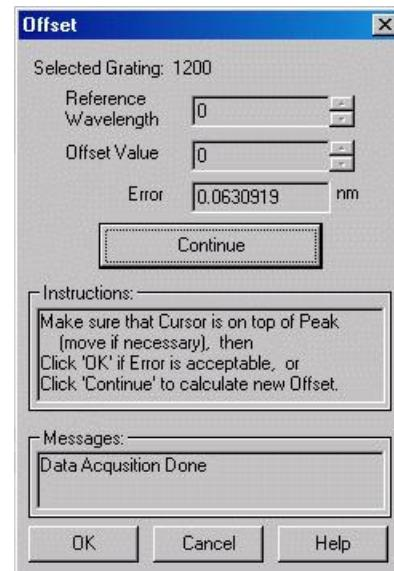

Figure 66. Offset dialog
2. In the Spectrograph Calibration dialog, click on the **Offset** button. This will open the Offset dialog (Figure 66).